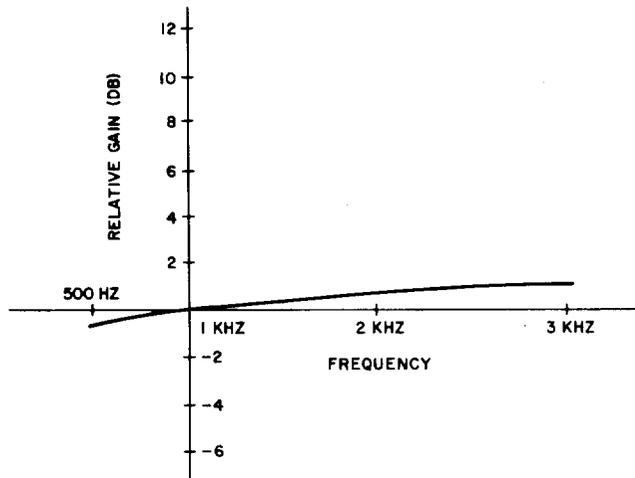

Fig. 9—Amplifier Frequency Response
4.02 Figure 9 gives the amplifier frequency response of the unit.